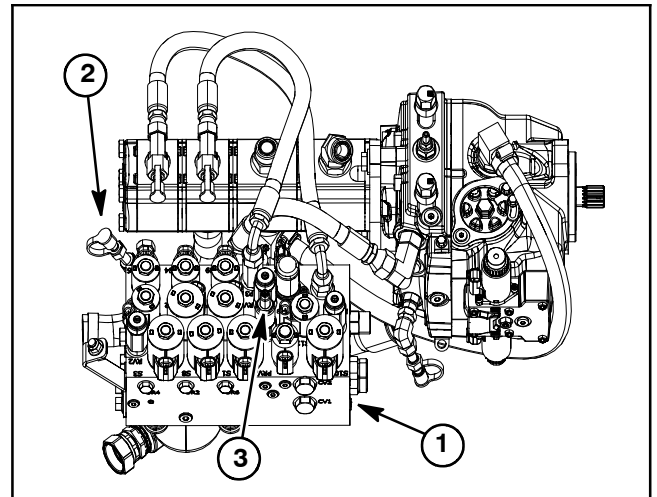

Figure 30
3. Connect a 1000 PSI (70 bar) pressure gauge to test port G1 on combination manifold (Fig. 30).